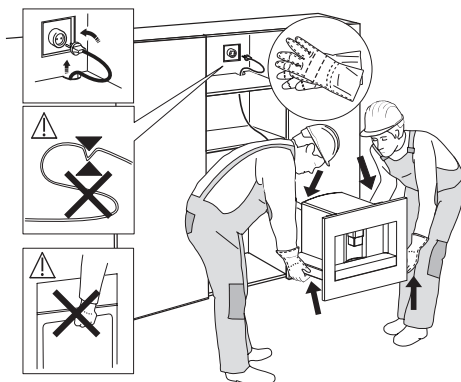

FIG. 1-Product and Furniture recommended dimensions
- To guarantee correct ventilation, leave a gap at the bottom of the cabinet (see measurements in figure 1).